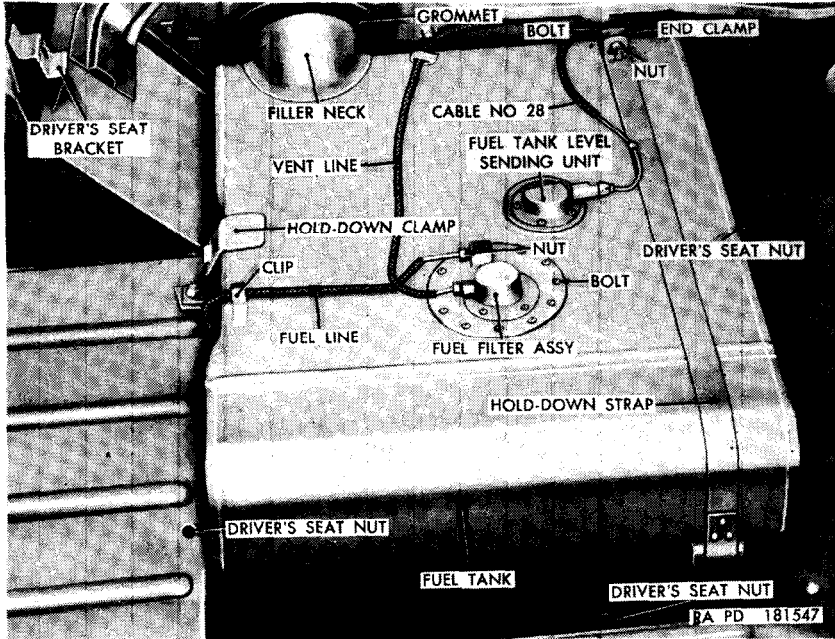

Figure 50. Fuel tank, fuel filter assembly, and fuel tank level sending unit—seat removed.
### 133. Fuel Filter Assembly (fig. 50)
- (1) *Removal.* Unscrew the nut on the rear of the fuel line (B) from the elbow (D). Unscrew the nut on the front end of the fuel line (fig. 50) from the fuel filter assembly. Bend the clip (fig. 50) securing the fuel line to the tank and remove the line by pulling it through the floor pan from the top.
- (2) *Installation.* Position the fuel line (fig. 50) in the vehicle by inserting through the floor pan from the top. Screw the nut on the front end of the line into the fuel filter assembly, and bend the clip on the top of the tank down over the fuel line. Screw the nut on the rear end of the fuel line (B) onto the elbow (D). On early production vehicles, install fuel and vent lines as described in (a) through (c) below, to prevent chafing by the driver's seat frame support gusset.
(fig. 50)